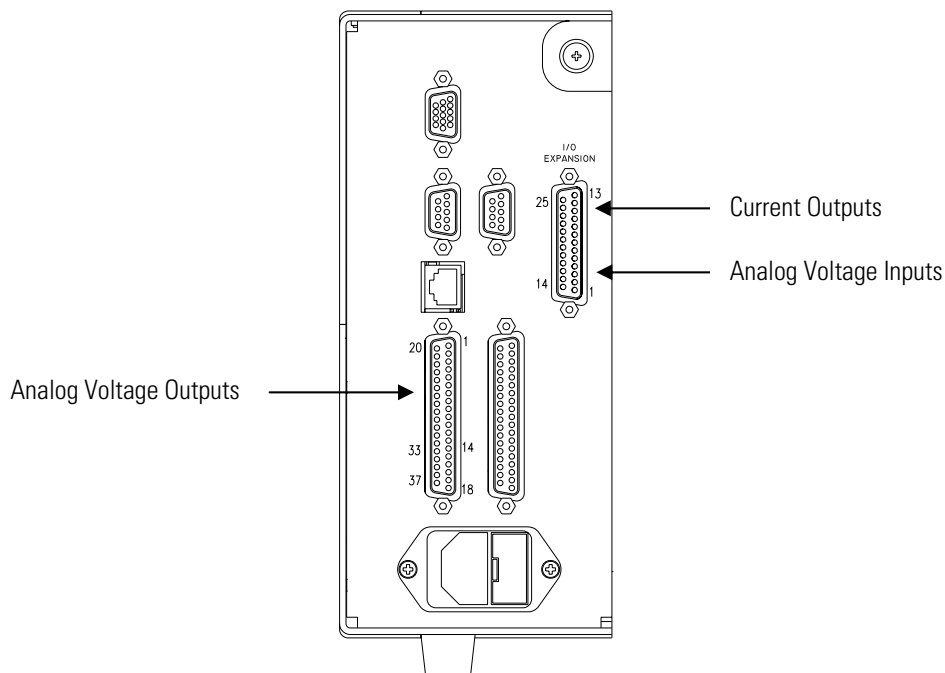

Figure 7–18. Rear Panel Analog Input and Output Pins
1. Connect a meter to the channel to be tested. Figure 7–18 shows the analog output pins and Table 7–4 identifies the associated channels.